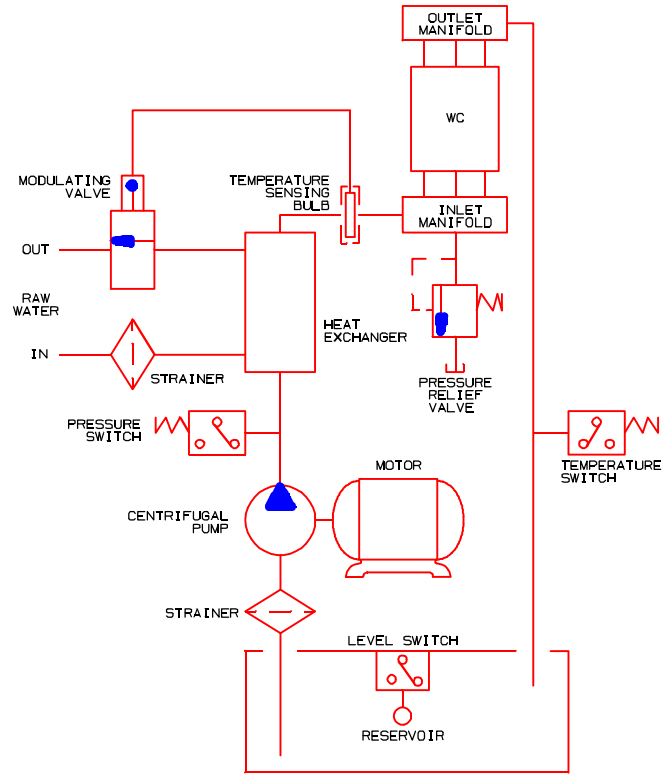

Fig. 4
- 2.4.8 Figure 4 illustrates a typical closed loop liquid to liquid coolant system. The heat exchanger and temperature control would be replaced with a radiator, fan and motor in a liquid to air system.